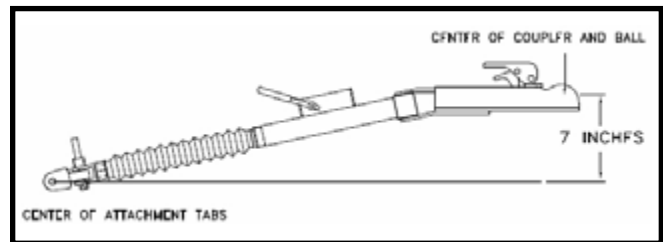

**Figure 5**
8. The Acclaim tow bar is designed for the coupler to be parallel to the ground when towing. If the tow bar coupler is at an angle, damage or accident could occur. Drop receivers of 2, 4, 6, 8 and 10 inches (BX88128 through BX88132) are available through any Blue Ox dealer or distributor. See Figure 5.